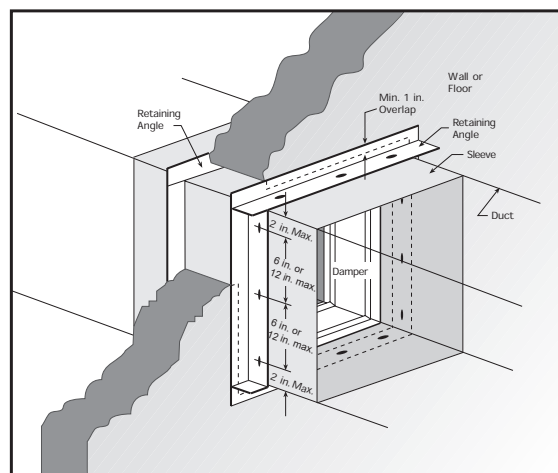

Figure 8: Two-sided angle installation method
**Two-Sided Angle Method:** For two-sided angle installations the retaining angles shall not be attached to the wall/floor (see Figure 8).